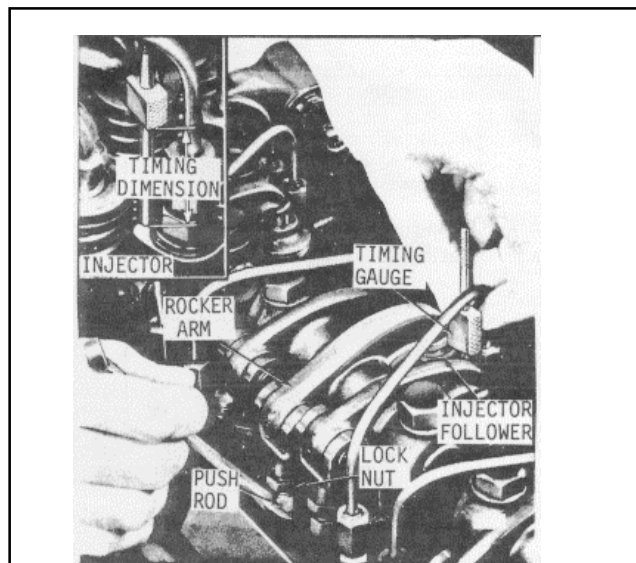

Fig. 3
- (3) Place the small end of the injector timing gauge in the hole provided in the top of the injector body, with the flat of the gauge toward the injector follower (Fig. 3).
- (4) Loosen the push rod locknut.
- (5) Turn the push rod and adjust the injector rocker arm until the extended part of the gauge will just pass over the top of the injector follower.
- (6) Hold the push rod and tighten the locknut. Check the adjustment and, if necessary, readjust the push rod.
- (7) Time the remaining injectors in the same manner as outlined in Steps 1 through 6.
- (8) If no further engine tune-up is required, use a new gasket and install the valve rocker cover.